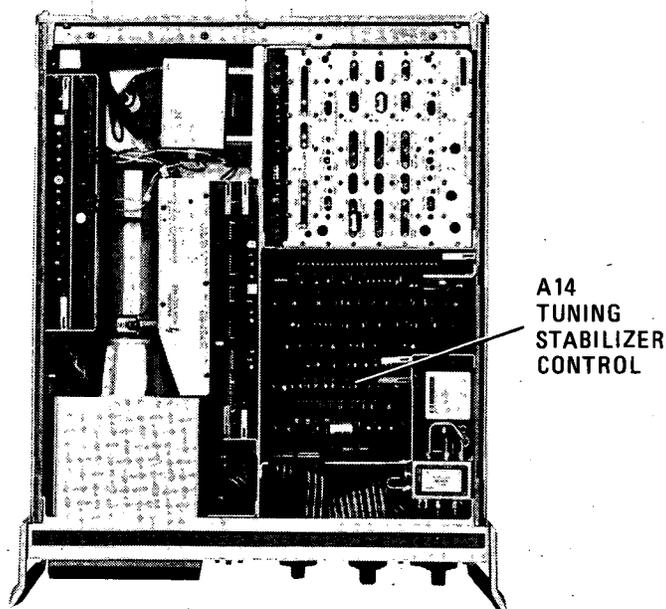

Figure 5-41. Tuning Stabilizer Control Adjustment Locations
4. Connect digital voltmeter across A14TP1 TICK S + T (high DVM input) and A14TP4 (low DVM input). (See Figure 5-41.)